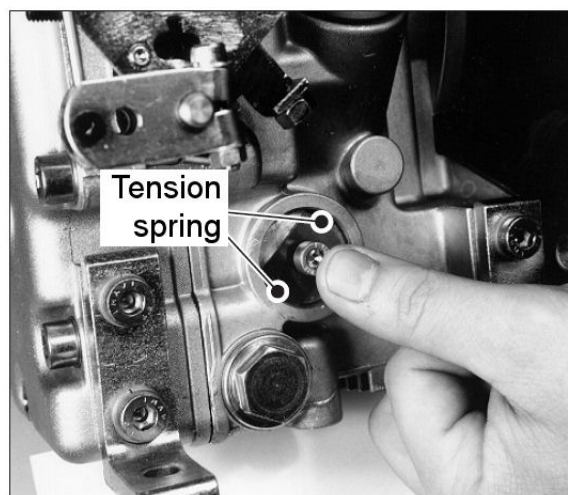

Fig 3-7 Oil filter spring
6. Insert filter to limit of travel. Ensure that tension springs (Fig 3-7) sit close to filter before tightening screw.